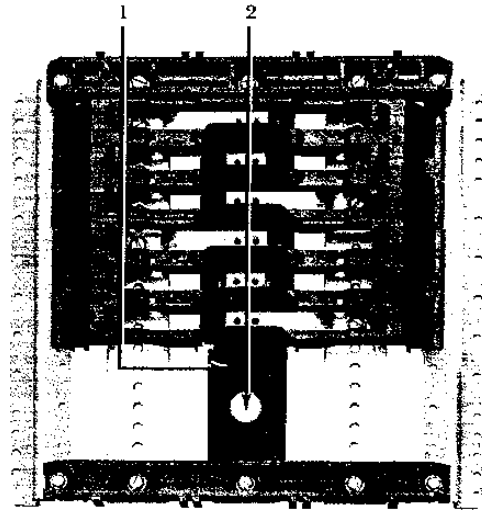

Figure 1
(See Figure 1)
Step 4: Remove item 1 B-phase bus insulator (See Figure 1)
Step 5: Add B-phase strap using (1) 1/4 x 20 screw removed